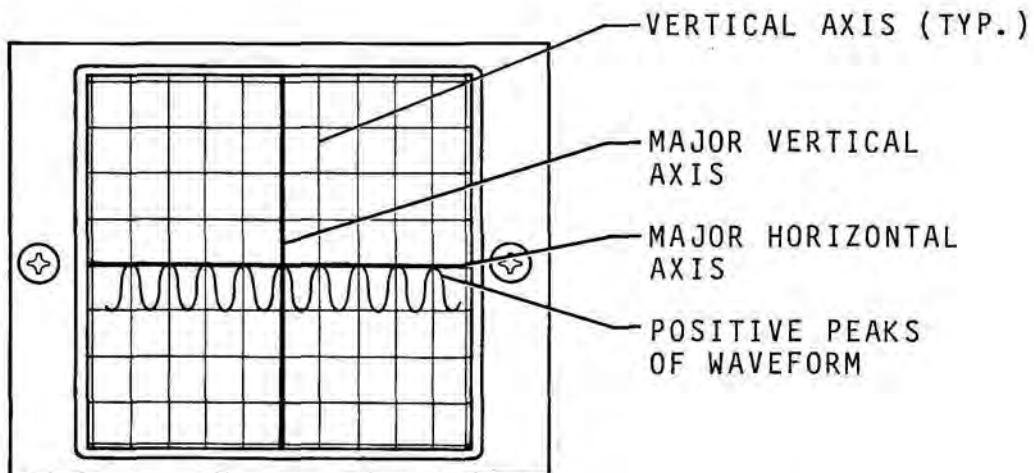
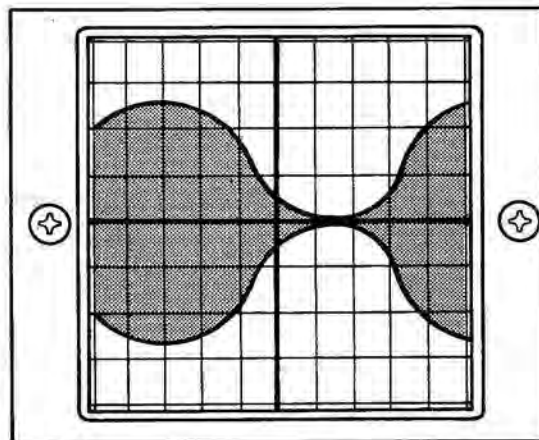

Figure 3-7 Center Positive Peak Of Displayed Waveform Centered Over Major Vertical Axis
Figure 3-8 Waveform Adjusted For 100% Modulation
15. Set MODULATION FREQ Hz Thumbwheels (27) to "01000.0" and rotate SWEEP Control (29) to "0.1 mS".
16. Adjust HORIZ Control (38) to center one of the positive peaks over major vertical axis and verify that adjacent (right) peak is also centered over vertical axis (within ± 2 minor graticule divisions). (See Figure 3-7.)
18. Set MODULATION FREQ Hz Thumbwheels (27) to "01000.0" and rotate DEV-VERT Control (33) to "15 KHz".
19. Adjust VERT Control (40) slowly to center displayed waveform over major horizontal axis.
20. Adjust VAR/OFF Control (25) ccw until waveform on CRT Display (34) exhibits 100% modulation. (See Figure 3-8.)